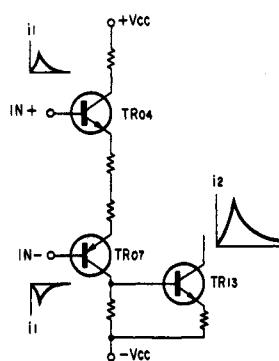
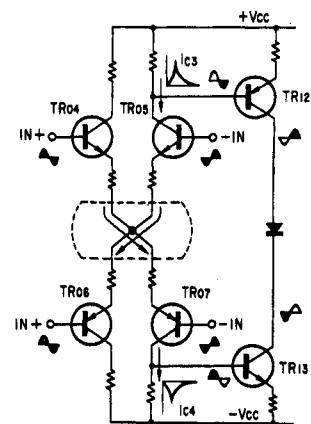

Fig. 2-3 (Complementary differential)
Fig. 2-5 (Fundamental of D.D. DC circuit)
- 1) Fig. 2-5 shows the fundamental circuit of D.D. DC circuit. TR04 and TR05 as well as TR06 and TR07 consist of the voltage differential circuit. On the other hand, TR04 and TR07 as well as TR05 and TR06 consist of the current differential circuit.
Fig. 2-3 shows the current differential circuit.
In Fig. 2-5, TR04 and TR05 as well as TR06 and TR07 perform voltage differential amplification at the normal signal frequency band. When a signal containing transient and high frequency component is applied, the operation of this stage shift from voltage differential amplification to current differential amplification of TR04 and TR07 as well as TR05 and TR06, which let the large current flow into this stage. Above function results the improvement of rise time and slew rate, in another word the reduction of TIM distortion.
- 2) The detailed operation of current differential circuit is as follows: TR04 and TR07 consist of complementary circuit in Fig. 2-3 and have a out of phase input respectively, therefore, only when a transient signal including (+) side components to TR04 and at (-) to TR07 is applied, this circuit functions and outputs only half a wave but large current. TR05 and TR06 perform the similar function in Fig. 2-5 and the outputs of TR05 and TR07 are out of phase and half a wave that TR12 and TR13 in next stage function as a push-pull operation and the large current can be flowed.
* In this Fig. 2-5 the cascode connection consisting of TR02, TR03, TR08 and TR09 is omitted.